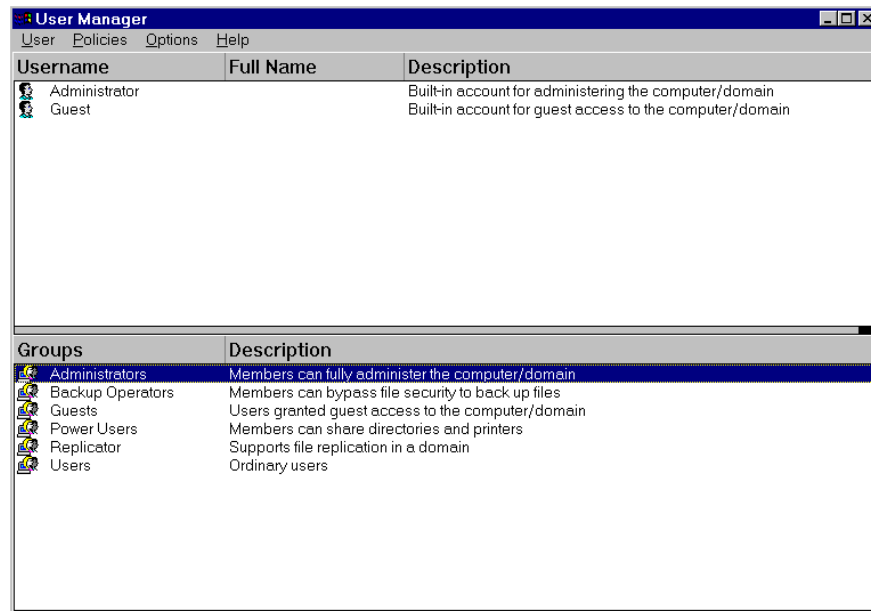

Figure 6. User Manager Dialog Box for Windows NT
2. Select **Administrative Tools**, and click **User Manager**. The **User Manager** dialog box opens (Figure 6).